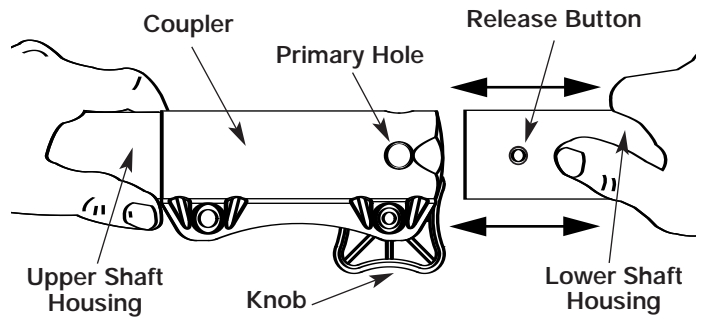

Fig. 2
- While firmly holding the upper shaft housing, pull the add-on out of the coupler (Fig. 2).
- While firmly holding the add-on, push it straight into the coupler (Fig. 2).
**CAUTION:** Lock the release button in the primary hole (Fig. 2) and securely tighten the knob before operating this unit.